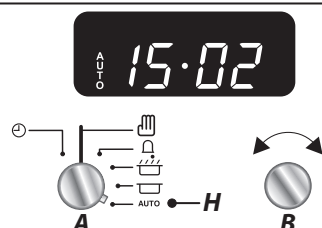

Fig. 3.13
6. When the program starts the oven, the cooking symbol will appear on the display. Once the specified time has elapsed it will emit an alarm and the Multifunction Oven will stop working. The 'Cooking' symbol on the display will disappear and the word 'AUTO' will flash (Fig. 3.13).